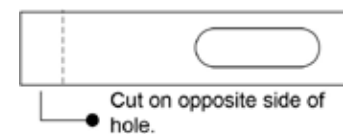

Fig 7
- 5.1. If the window opening is less than the minimum length of the window slider kit, cut the end short enough to fit in the window opening. Never cut out the hole in the window slider kit (Fig 7).